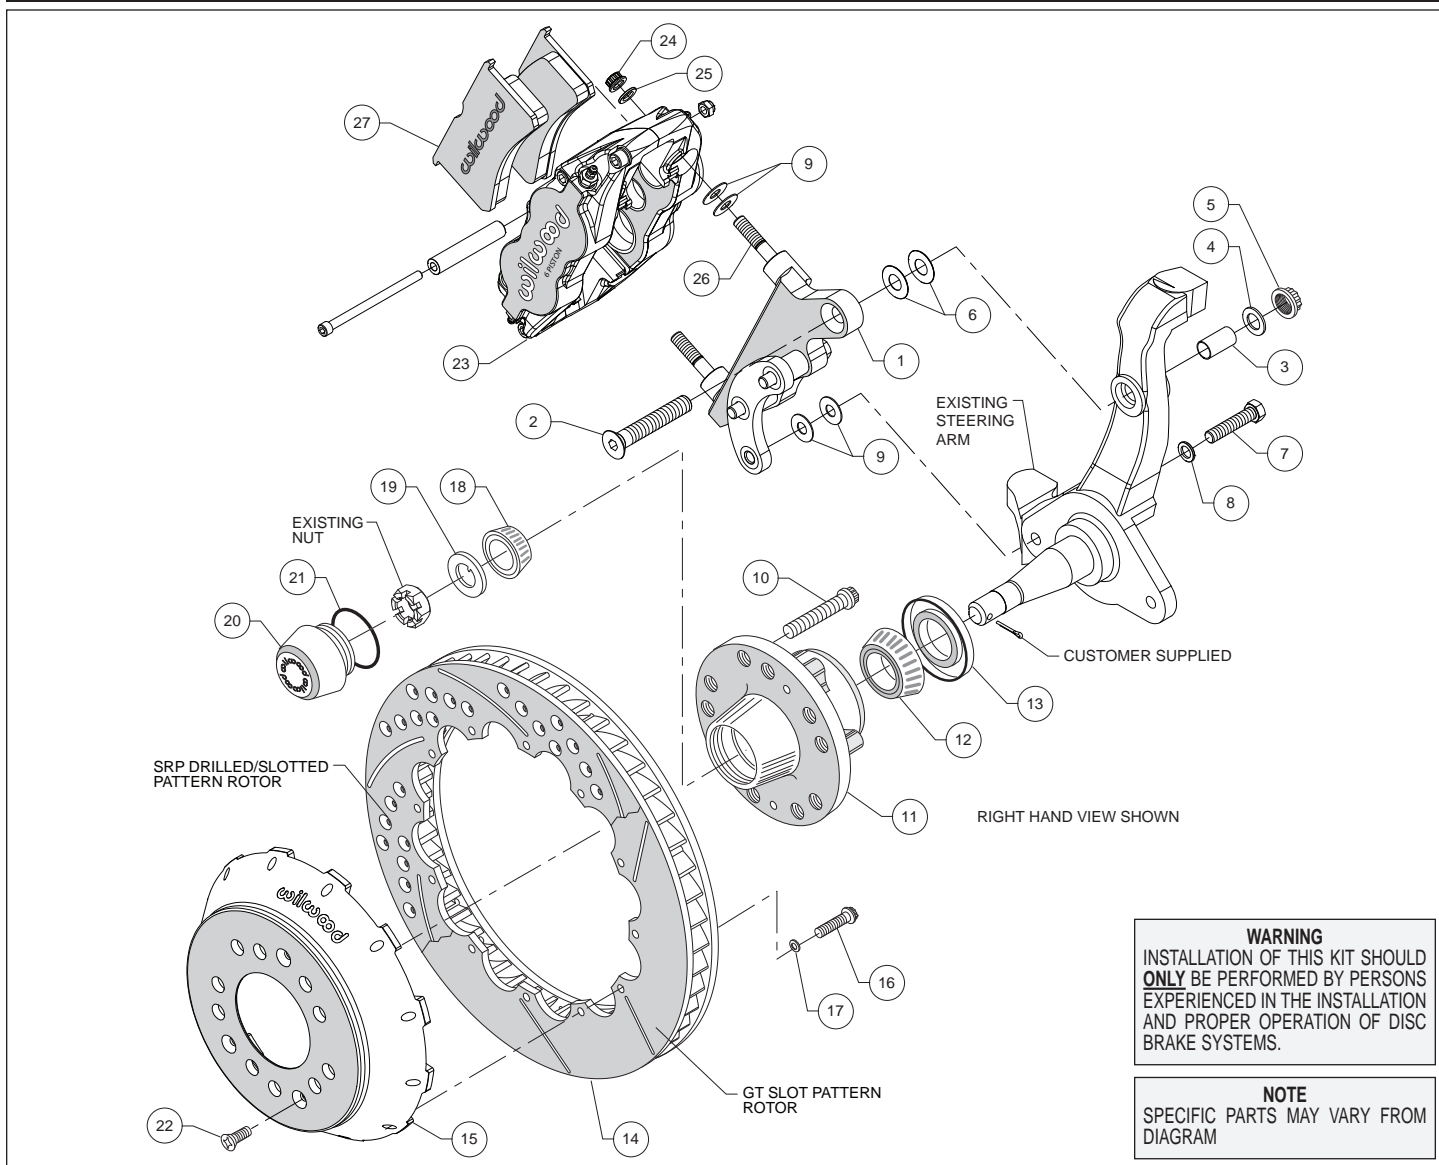
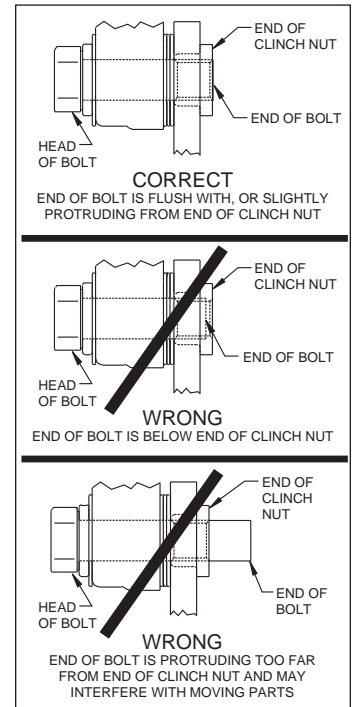

Figure 1. Typical Installation Configuration
Figure 4. Clinch Nut Engagement Diagram
**Assembly Instructions** (numbers in parenthesis refer to the parts list and Figure 1 on the preceding pages): **CAUTION:** All mounting bolts must fully engage clinch nuts. Be sure to check that all bolts are either flush or protruding through flanged side of clinch nut after shimming, Figure 4.
- The caliper bracket (1) should initially be installed with clean, dry threads on the mounting bolts. The bracket has been assembled at the factory for alignment purposes. Loosen the two bolts that secure the brackets together so that the bolts are hand tight only. This will enable the bracket assembly to be adjusted to accommodate various spindle tolerances during assembly. Insert sleeve (3) into top mounting hole on the spindle, Figure 1. Orient the bracket as shown in Figure 1 and install using bolt (2), washer (4), and locknut (5), in the upper hole, as shown in Figure 1 and Photo 1. Initially use two .032" thick shims (6) on the upper bolt between the bracket and spindle, Figure 1. Install bolt (7) and washer (8) in the lower hole, Figure 1. Initially use two .035" thick shims (9) between the bracket and spindle face. Temporarily tighten the mounting bolts, followed by the two bracket-to-bracket bolts. **NOTE:** The bracket must fit squarely against the mounting points on the spindle. Inspect for interference from casting irregularities, machining ridges, burrs, etc. Later, after the bracket and caliper alignment has been checked, the bolts will be secured using red *Loctite*® 271.
- Check that the bracket (1) is aligned parallel to the rotor (14), Photo 2, by assembling and installing the hub, hat, and rotor per the steps below. If not, parallel adjust by adding or subtracting shims (9) on the lower bolt between the spindle and bracket, Figure 1.
- Install wheel studs (10) into the hub (11), Photo 3. Torque to 77 ft-lb. **NOTE:** There are two five lug patterns in the hub (5 x 4.50 and 5 x 4.75). Ensure the correct hub stud pattern is being used to fit the wheel application.
- Pack the large inner bearing cone (12) with high temperature disc brake bearing grease (available from your local auto parts store) and install into the backside of the hub (11), Photo 4.
- Install the grease seal (13) by pressing into the backside of the hub (11), flush with the end of the hub, Photo 4.
- Orient the rotor (14) and the hat (15) as shown in Figure 1 and Photo 5. Attach rotor to hat using bolts (16) and washers (17). Using an alternating sequence, apply red *Loctite*® 271 to the
- Pack the small outer bearing cone (18) with high temperature disc brake bearing grease and install into hub (11). Slide the hub assembly onto the spindle. Secure using spindle washer (19) and OEM spindle nut, Photo 6. Adjust bearings per OEM specifications. Install saved OEM nut lock (if any) and a new cotter pin (not included).
- Screw dust cap (20) into hub (11), Photo 7. Friction created by the o-ring (21) on the dust cap keeps it from unscrewing. **NOTE:** *The O.D. of the existing OEM spindle washer may be larger than the I.D. of the dust cap not allowing it to seat against the hub face. Therefore, use the spindle washer (19) supplied with the kit instead of the OEM washer.*
- Slide the hat/rotor assembly (14/15) onto the hub (11) taking care to align the small countersunk holes in the hat with the small threaded holes in the hub. **NOTE:** *The hat must fit flush against the hub face or excessive rotor run out may result.* Install three flat head screws (22) through the small holes in the hat, Photo 7, and torque to 85 **in-lb**.
- NOTE:** *This kit contains distinct right and left hand calipers that must be mounted in a specific direction, as described below.* Lubricate the caliper mounting studs (26) with lightweight oil. Initially place two .035" thick shims (9) on each stud between the caliper and the bracket, as shown in Figure 1 and Photo 8. Mount the caliper (23) onto the bracket (1) using lock nuts (24) and washers (25), Figure 1. Ensure that the caliper is mounted so the largest pistons are at the rotor exit end of the caliper, in relation to the direction of rotor rotation. Temporarily tighten the lock nuts and view the rotor through the top opening of the caliper. The rotor should be centered in the caliper, Photo 9. If not, adjust by adding or subtracting shims (6 upper bolt, and 9 lower bolt) between the spindle and the caliper bracket. Always add or subtract the same amount of shims on each of the two mounting bolts to keep the bracket parallel to the rotor. **NOTE:** *The end of the lower bolt must be flush with, or slightly protruding from, the head of the clinch nut, as shown in Figure 4.* If necessary place spare shims between washer (8) and spindle to achieve the proper clinch nut engagement.